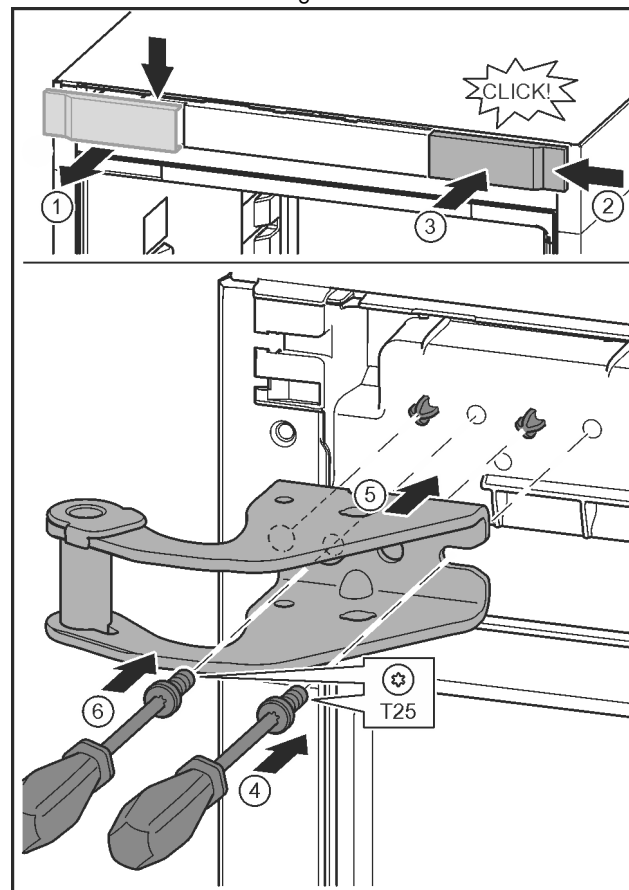

Fig. 15
- Release the cover and remove from the side. Fig. 15 (1)
- Rotate the cover 180° and clip onto the other side from the right. Fig. 15 (2)
- Click the cover into place. Fig. 15 (3)
- Position the screw with a T25 screwdriver. Fig. 15 (4)
- Position the upper bearing bracket. Fig. 15 (5)
- Tighten the screw. Fig. 15 (4)
- Insert the screw with a T25 screwdriver and tighten. Fig. 15 (6)